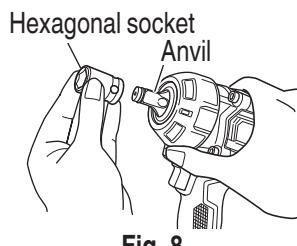

Fig. 8
4. Installing a socket (Fig. 8)